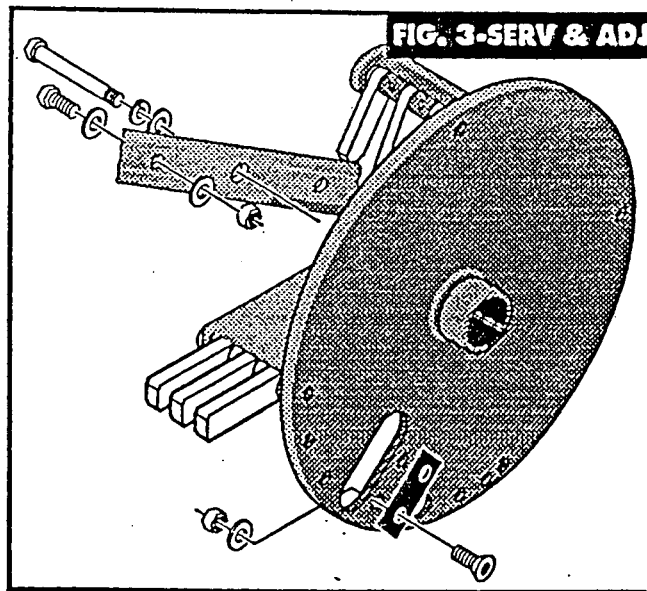

FIG. 3-SERV & ADJ
- Leaves and small twigs can be raked into the Hopper assembly, when the Hopper assembly is rotated to the ground. Small branches can also be fed into the Hopper assembly in this position (See FIG. 3-OP).
- Remove the Chipper chute by removing three (3) hex nuts and washers (items B). A 1/2" socket with extension is required (See FIG.-3 ASSY).
- Rotate the Hopper assembly to the ground as shown in FIG. 3-OP.
- Remove the impeller assembly (See FIG. 3-SERV & ADJ) by removing the center bolt, lockwasher, and spring washer (NOTE: When reassembling, make certain the raised side of the spring washer faces the bolt head).
- Using two (2) 1/2" wrenches, remove the shredding blade from impeller assembly by removing the blade retaining bolts, flatwashers and locknuts (SEE FIG. 3-SERV & ADJ).